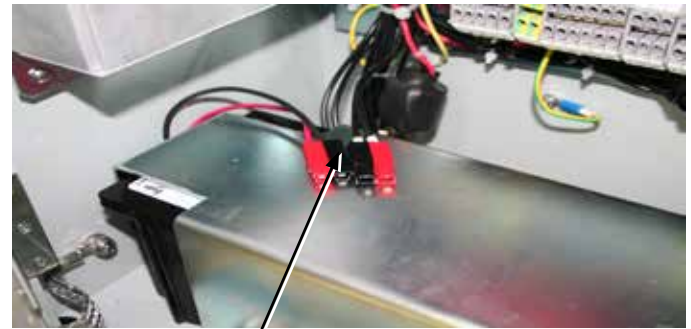

Figure 43.
2. Disconnect the control wiring to the battery that will be replaced (Figure 43).
10. Reconnect control wiring to the new battery (Figure 43).